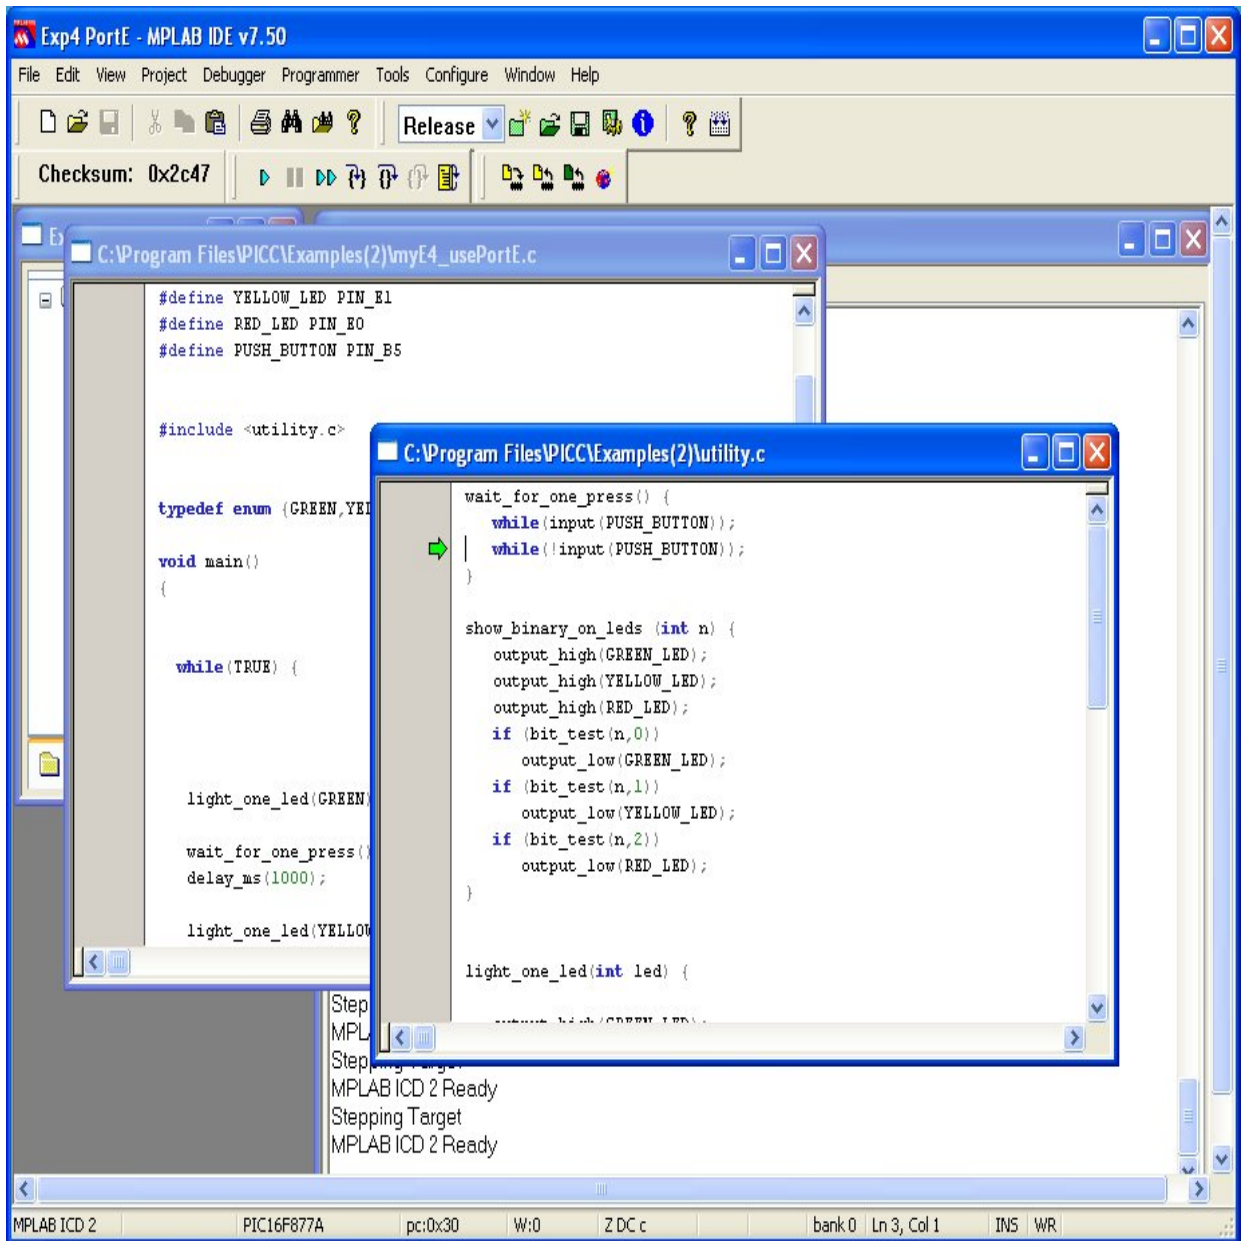

Figure 24: While Loop Line: Debug Step Over
- When you Step Over a line like `while(input(PUSH_BUTTON))`, the debug cursor (Green Cursor) might seem to stuck here forever, make the condition of the while statement a FALSE one (press the event push button on the educational board) so that the cursor will go to the next line when click on the Step Over Icon in debug. (Fig.24)